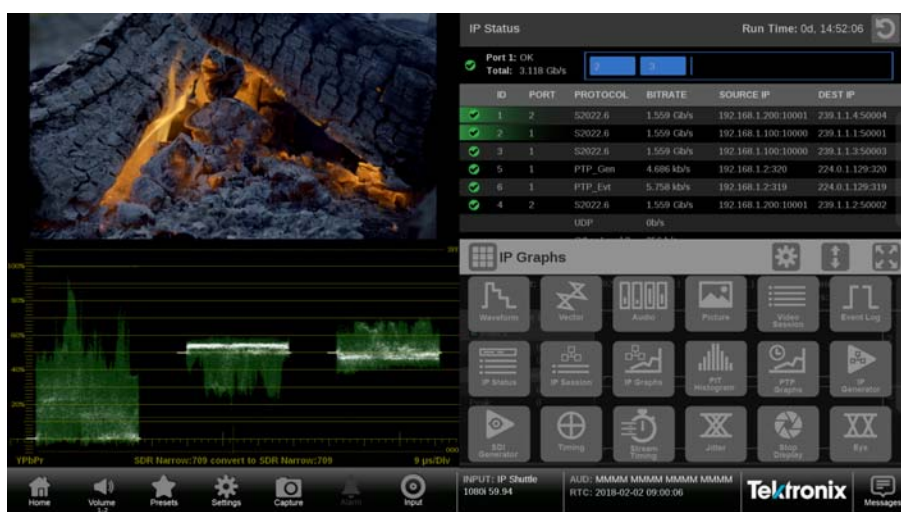

Figure 6: PRISM display in four-tile mode
2. If necessary, touch the  icon to open the list of available applications. (See Figure 6 on page 13.)